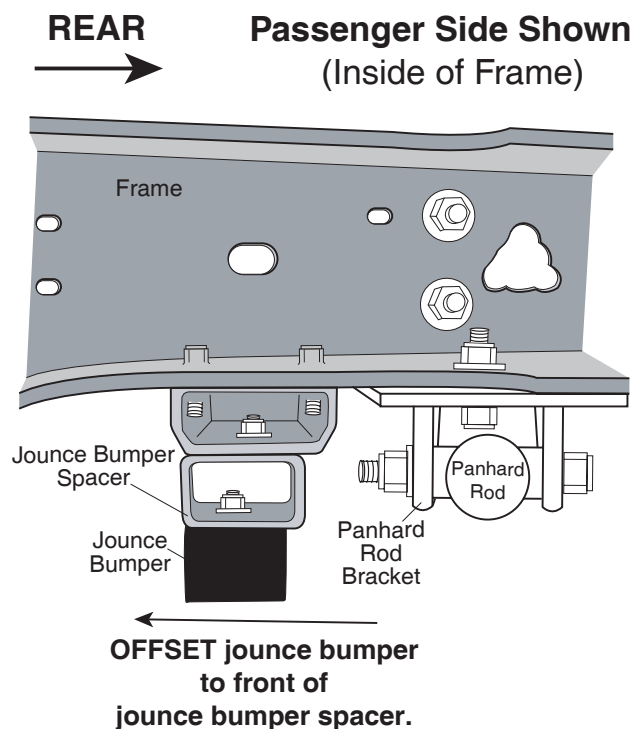

Figure 18
3. Attach the assembly using the supplied $\frac{3}{8}$ " hardware (Figure 18).